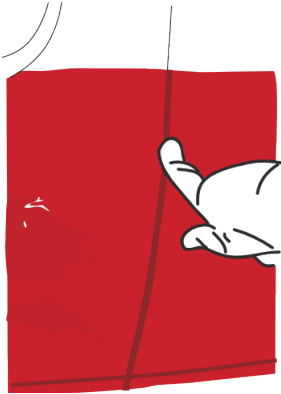

Figure 24
- › Trace the contours of the area with your gloved finger. (FIG. 24)